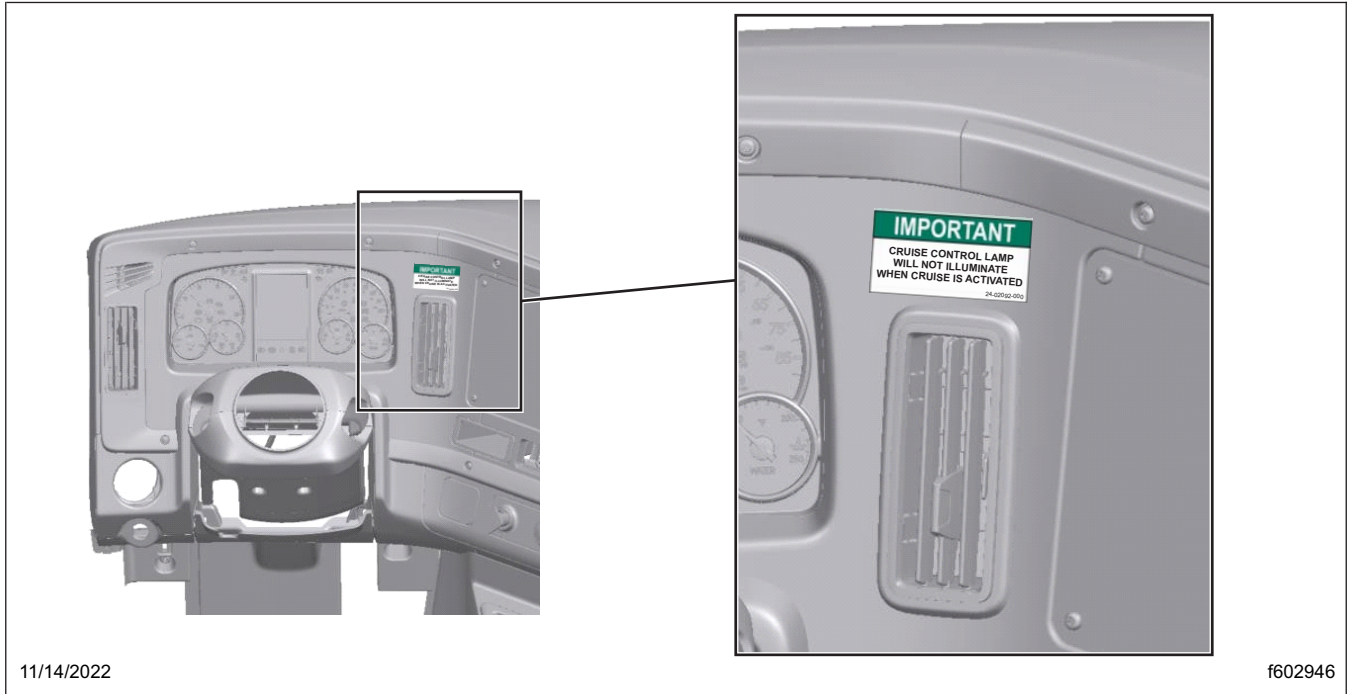

Fig. 16, Removing the Label
30. Inside the cab, carefully remove the label that reads 'IMPORTANT CRUISE CONTROL LAMP WILL NOT ILLUMINATE WHEN CRUISE IS ACTIVATED.' The label is located on the dash A-panel, near the driver instrument panel. See Fig. 16.